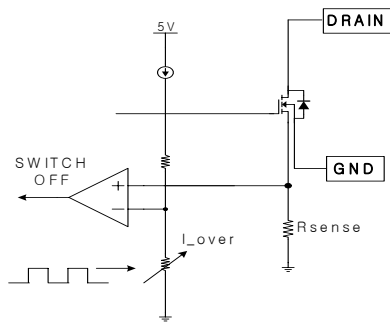

Figure 8. Soft Start Function
**5. Soft Start :** The FPS™ has an internal soft start circuit that increases the feedback voltage together with the Sense FET current slowly after it starts up. The typical soft start time is 15msec, as shown in figure 8, where progressive increments of Sense FET current are allowed during the start-up phase. The pulse width to the power switching device is progressively increased to establish the correct working conditions for transformers, inductors, and capacitors. The voltage on the output capacitors is progressively increased with the intention of smoothly establishing the required output voltage. It also helps to prevent transformer saturation and reduce the stress on the secondary diode.